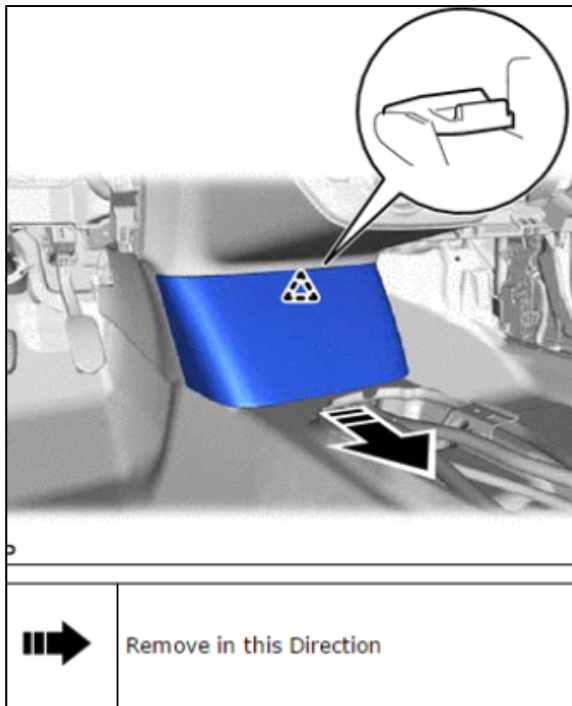

Figure 20
- Disengage the clip as shown in the illustration. See Figure 20.